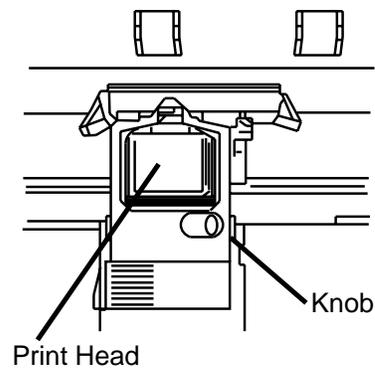

Figure 6-6. Inserting the Ribbon Cartridge
- 9.6. Lower the front of the ribbon cartridge over the print head until it snaps into place as shown in Figure 6-6.